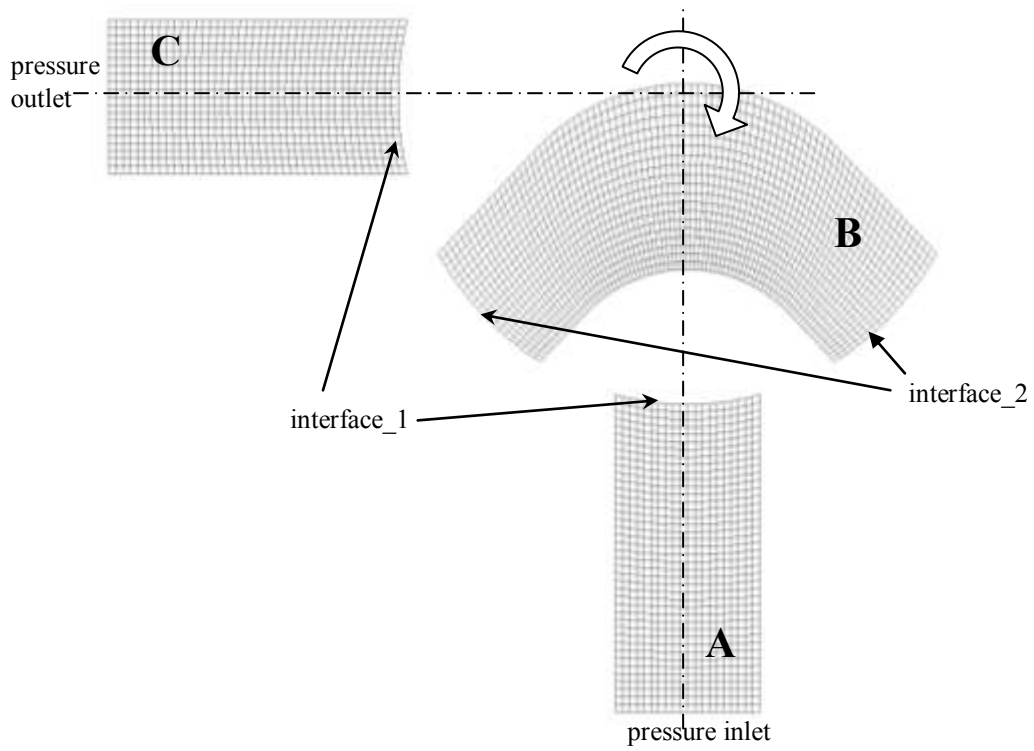

Figure 1: Computational mesh (coarse). Here the main passage is rotated by -45 deg.
The mesh should be created as shown in Fig 1 (coarse mesh). The zones A and C correspond to the inlet and outlet channels while the zone C corresponds to the main valve passage.
10. Specify the name of boundaries and zones as shown in fig. 1. Select the line, right click and select the **Named Selection**. Specify the two zones A (inlet) and B (rotating\_passage). Right click, **Named Selection**.
2. Click on the **Mesh** button. Change the settings under the **Physics reference** from **Mechanical** to **CFD**, use **Fluent** as **Solver Preference**. Generate the preliminary mapped mesh (see fig. 1). This will be the coarse mesh. Make the second fine mesh, refined near to the walls. Export both meshes to Fluent \*.msh file. **File/Export/Fluent input file**
7. Set the liquid water in all zones 'a', 'b' and 'c' (fig. 1) in **Define/Cell Zone Conditions/Edit**. Once the liquid water is set for the one zone/face the settings can be copied to the other zones/faces.